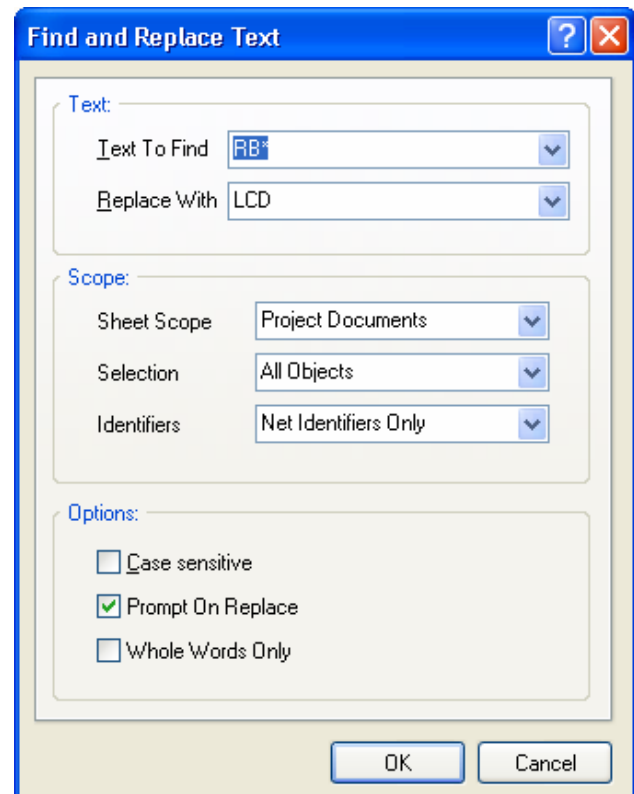

Figure 1. Performing a partial string substitution
- To target a section of a string, include the * or ? wildcards as appropriate. In Figure 1, the combination of the Text to Find, the Sheet Scope and the Restrict to net Identifiers option will result in any net label, port, sheet entry or power port whose net attribute starts with the letters RB being found.
- Partial string substitutions can be performed using the syntax {oldtext=newtext}. This means you can change a portion of the current string (oldtext) to a new string (newtext). In Figure 1, the letters RB will be replaced with LCD. Any other characters in each found net identifier will remain the same. For example, the following changes would occur: